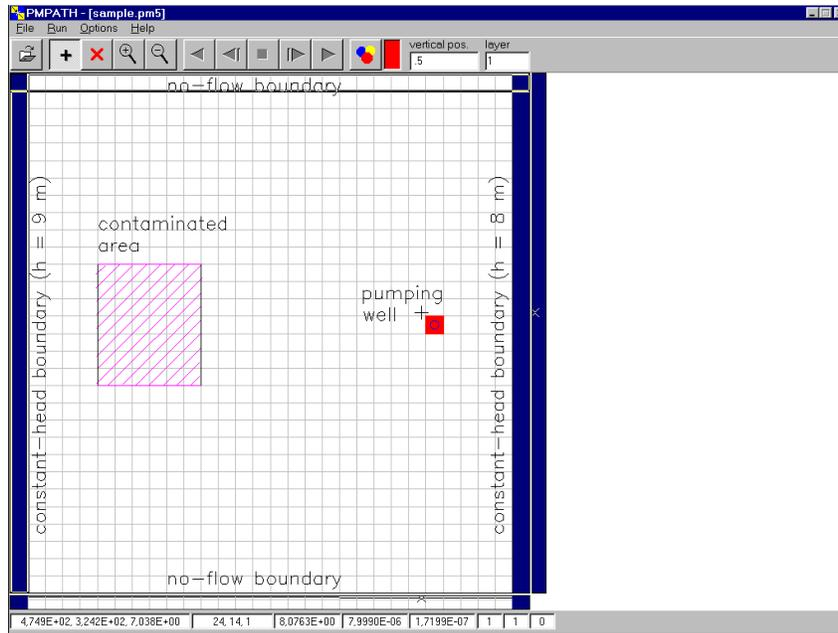

Fig. 1.15 The sample model loaded in PMPATH
c. Place the crosshairs at the upper-left corner of the pumping well, as shown in Fig. 1.15.